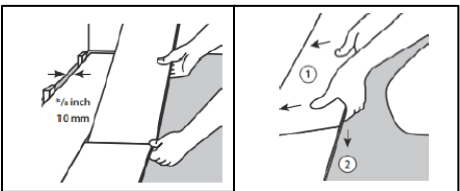

Figure 4
- Install the second plank of the second row by installing its short edge to the previous row’s groove. Hold a plank at approximately a 30-degree angle and connect short end joints together about half-way down the width of the short edge. Before lowering the right edge of the plank, slide it forward towards the previous row. Install the remaining planks and rows in the same manner (**Figure 4**).